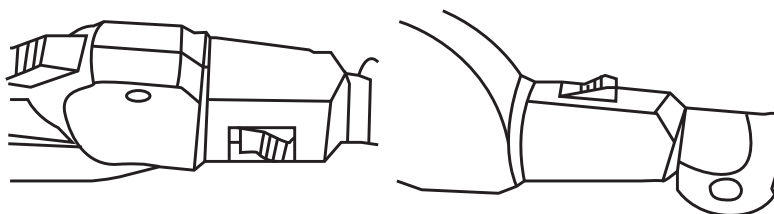

Fig. 13
2. Push the rotating button (16), then turn the product to the angle you need.
3. Push the rotating button (16) and hold it in position (Fig. 13).